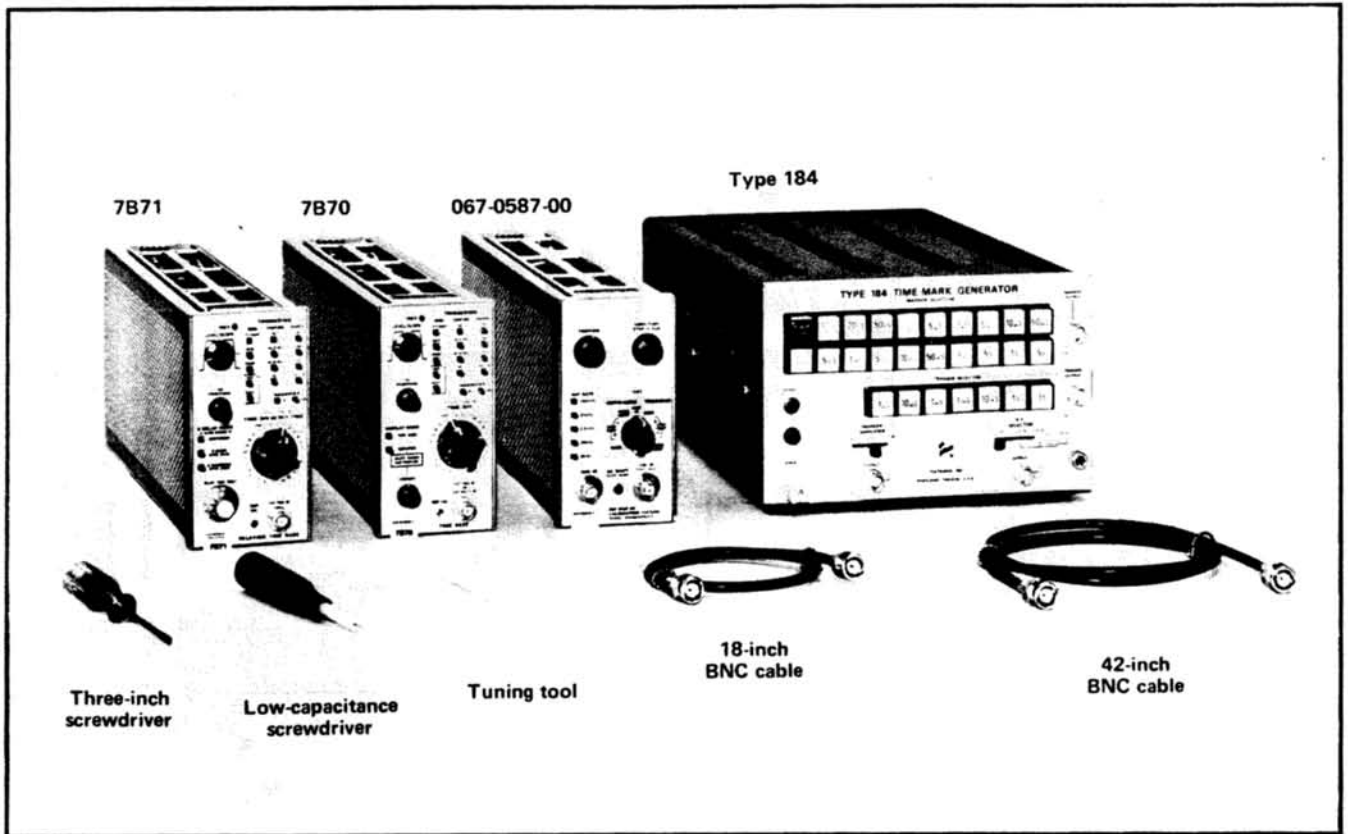

Fig. 5-12. Test equipment required for steps 12 through 17.
12. Check/Adjust Horizontal Amplifier Thermal Balance ❶
- a. Test equipment required for steps 12 through 17 is shown in Fig. 5-12.